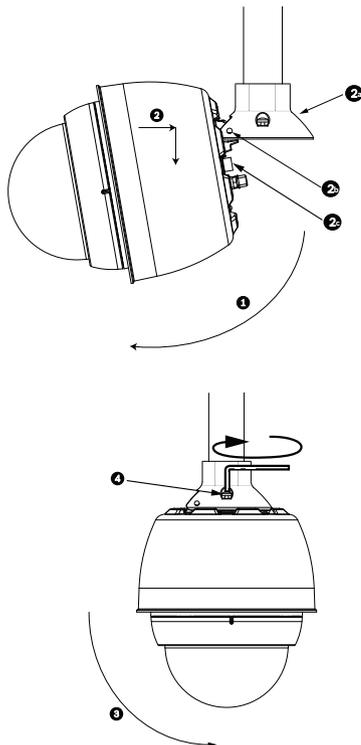

Figure 2.9 Pendant to Pipe Mount Attachment
- Tighten the three (3) 10-mm (3/8-inch) stainless steel hex bolts on the bracket to lock the Parapet Arm in position. Refer to *Figure 2.9, Page 29*, for an illustration.